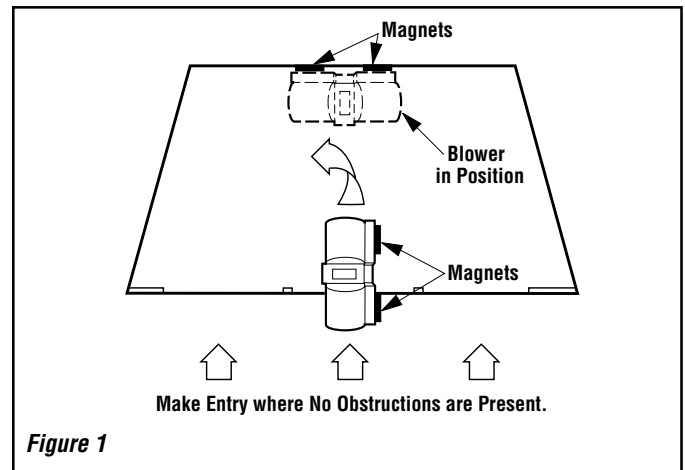

Figure 1
**Step 1.** In most appliances the FAB-1100 blower is simply positioned against the appliance back wall, with the magnets engaging the sheetmetal rear wall to secure the blower in place. Generally access to this location is gained by the opening (or removal) of the appliance lower compartment door or louvers **Figure 1**.